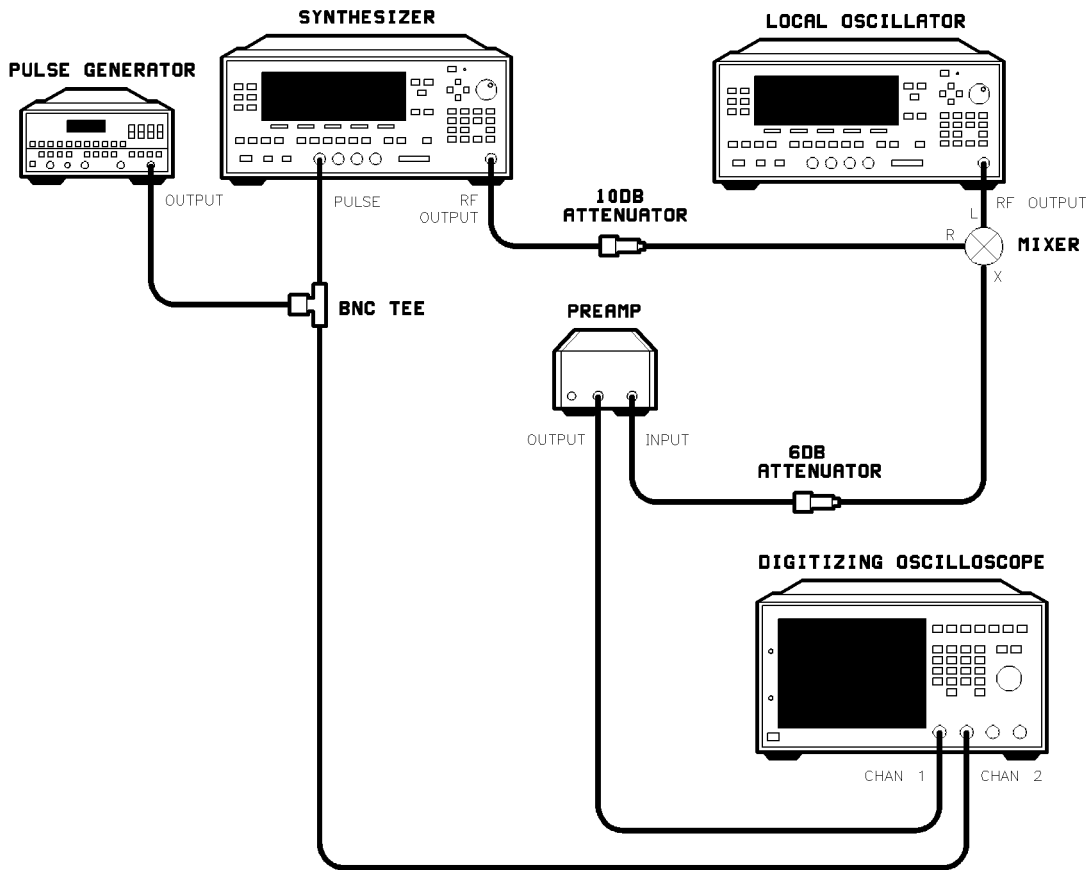
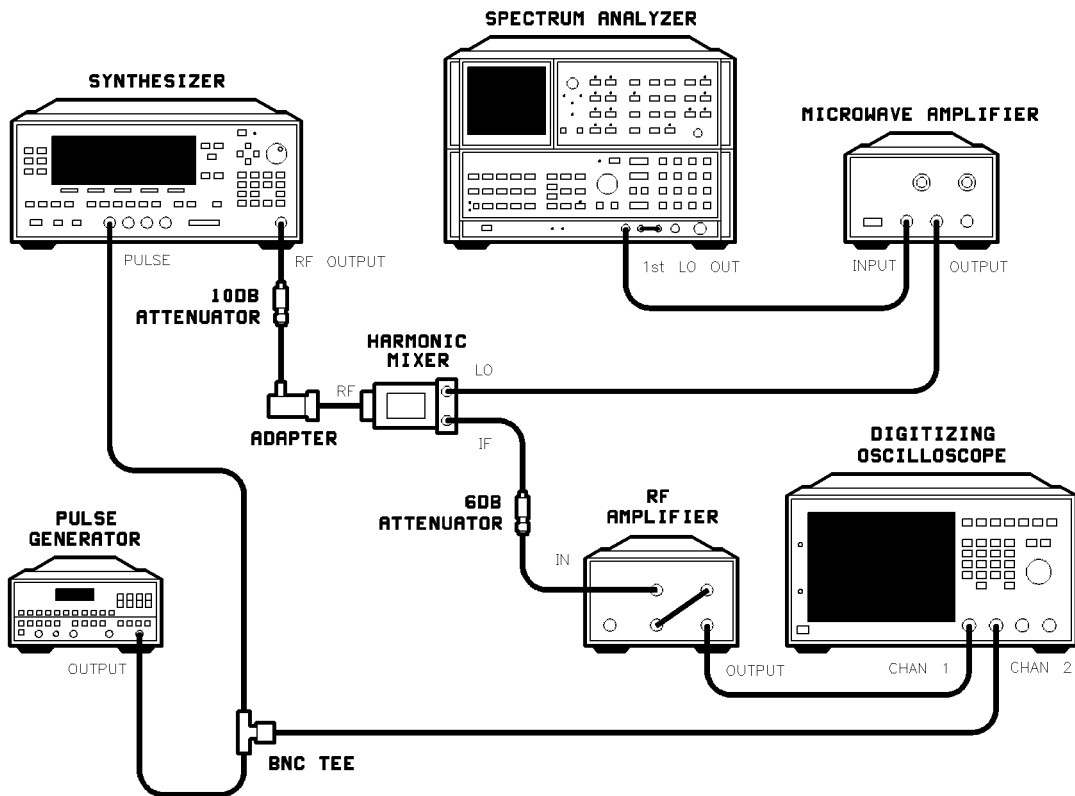

Figure 2-18. Pulse Performance Test Setup < 20 GHz
Figure 2-20. Pulse Performance Test Setup >20 GHz
1. Turn on the equipment shown in Figure 2-18 and Figure 2-20. Preset the instruments and let them warm up for at least one hour.
2. Connect the equipment as shown in Figure 2-18.
25. Connect the equipment as shown in Figure 2-20 using the HP/Agilent 11970K Mixer.